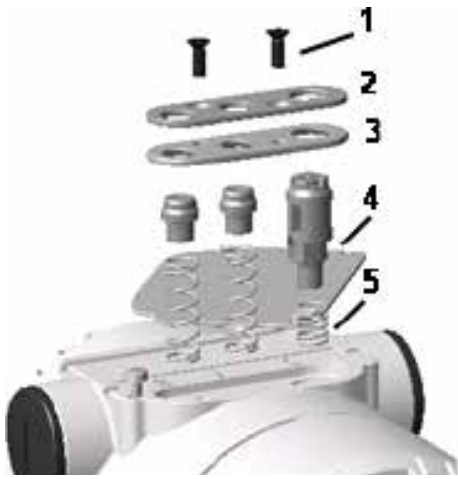

Figure 15 External push button assembly components
- Loosen the push button assembly screws (1) that secure the plastic element. The element is spring-loaded.
- Remove the gaskets (3) that are positioned below the push-button plastic cover (2).
The three push buttons (4) and the relevant springs (5) can now be removed from their seat (see Figure 15).